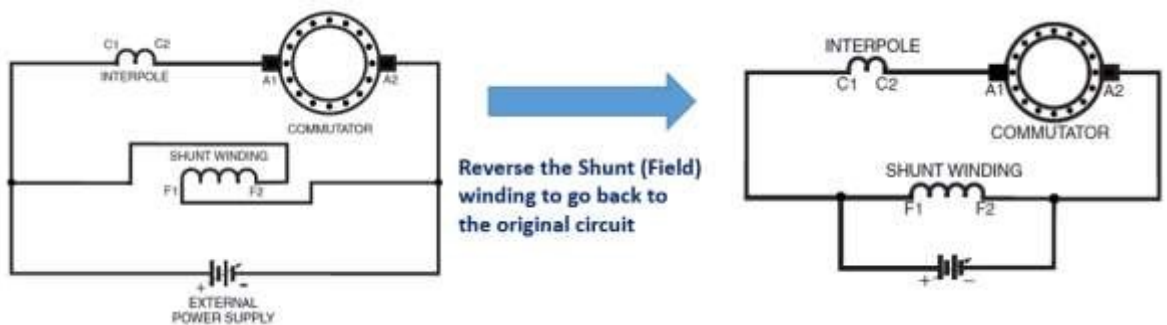

Figure 4: Returning the circuit to the original circuit/direction of rotation
7. Change the wiring back to the original circuit (see Figure 4.)